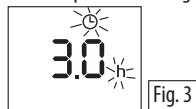

Fig. 3
Delayed start: With the appliance off, press the timer button (F) . The  symbol is displayed flashing together with the hours left before the appliance comes on (see fig. 3). Change the hours using the + and - buttons, then wait a few seconds for the program to be stored. The display will return to off and the  symbols remains on. When the programmed time has elapsed, the appliance will come on with the previous settings.
Delayed stop: with the appliance on, press the timer button . The  symbol is displayed flashing together with the hours left before the appliance goes off (see fig. 3). Change the hours using the + and - buttons, then wait a few seconds for the program to be stored. The current settings and  symbol are displayed. At the end of the set time the appliance switches off automatically. To go back to operating without the timer, press the timer button twice.